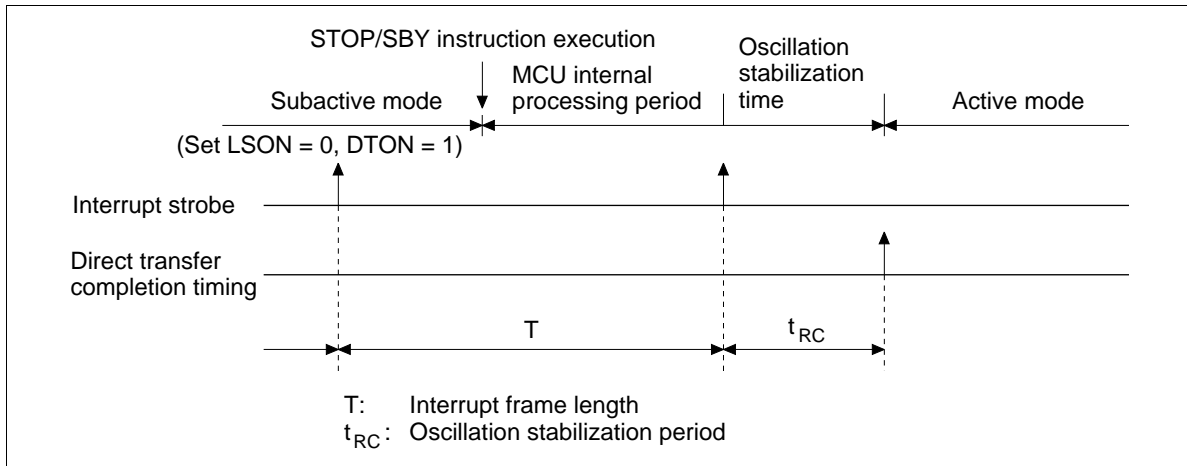

Figure 19 Direct Transition Timing
- The MCU automatically enters active mode from subactive mode after waiting for the MCU internal processing time and oscillation stabilization time (Figure 19).